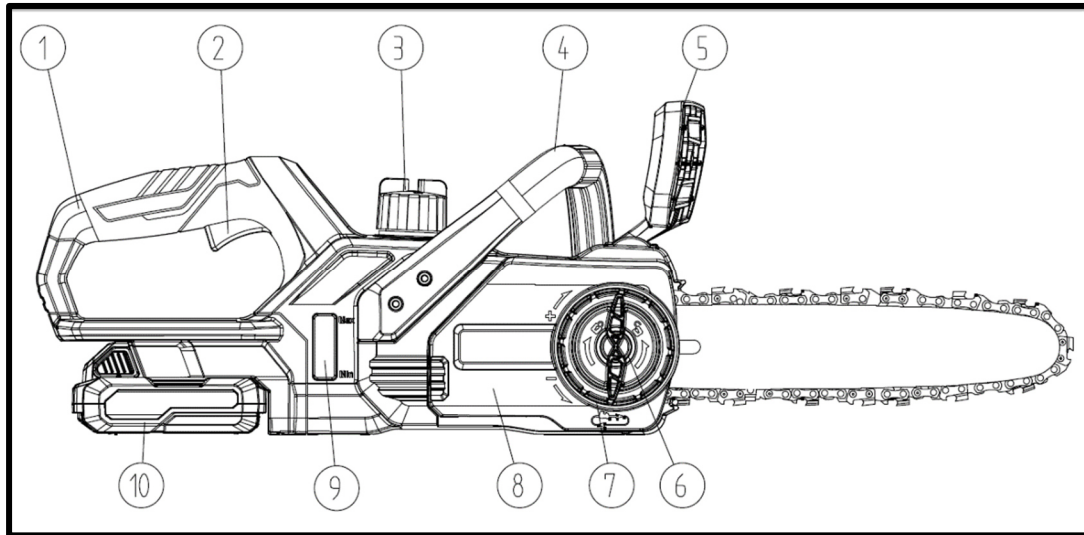

Figure 1: Chainsaw
Insert the battery into the slot provided. Then push the safety button (Figure 1, item 12) in at the side. Only then you can operate the on/off switch (Figure 6, item 2). The device will now start up. If you release the on/off switch, the device stops working.
Check the oil quantity by means of the oil level indicator and top up the tank with oil if necessary (Figure 1, point 3)